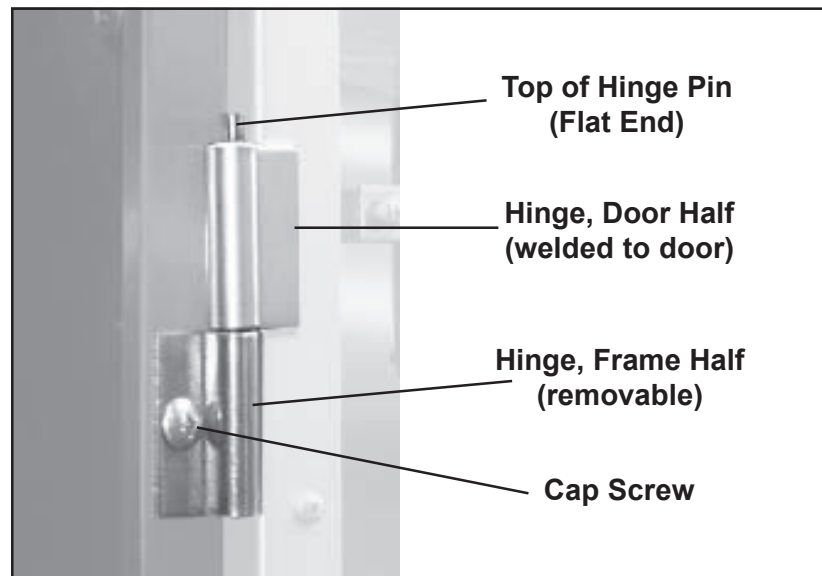

Figure 13. Door Hinge and Hinge Pin
1. Use a punch and a small hammer to drive the existing hinge pin upward, and out of the hinge (Figure 13).
4. With a punch and a small hammer, drive both hinge pins upward, and out of the hinges (Figure 13).
2. Remove the cap screw (Figure 13) that holds the hinge in place, and remove the hinge.